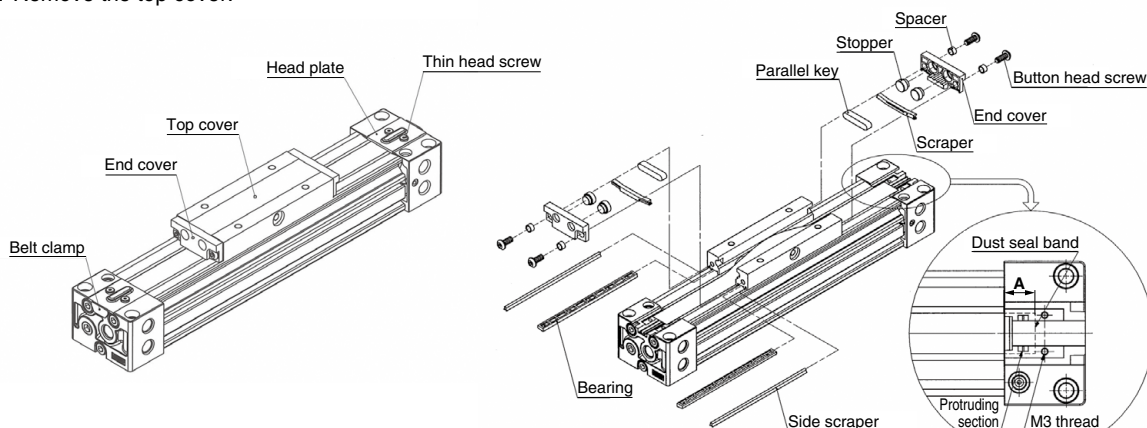

Fig. 1
- Remove the thin head screws on the top surface of the head cover (in 2 locations on each side, 4 in total), and then remove the head plate and belt clamp. (Refer to Fig. 1.)
- Remove the holding bolts on the end cover (on both sides of the slider), and then remove the end cover. (Refer to Fig. 1.) (In some cases, when removing the end cover, the spacer, stopper, or double round parallel key may fall out. Be sure not to lose these components.)